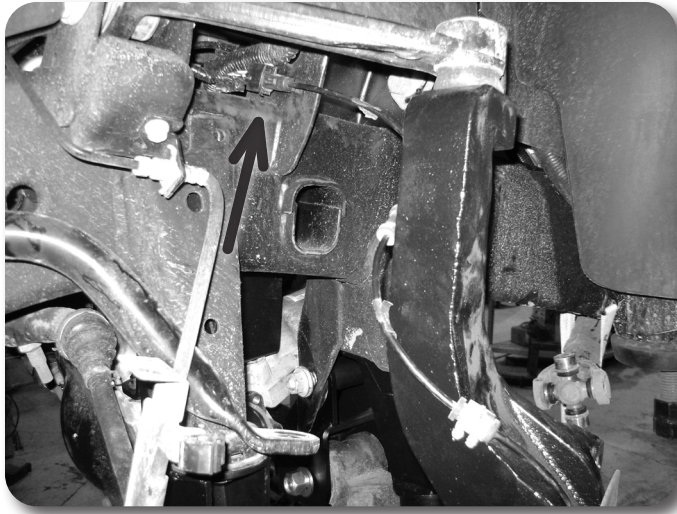

Figure 39
56. Run the ABS line around the front of the steering knuckle and up to the wire connector on the frame. Reconnect the wire and reattach it to the original place on the frame. Figure 39